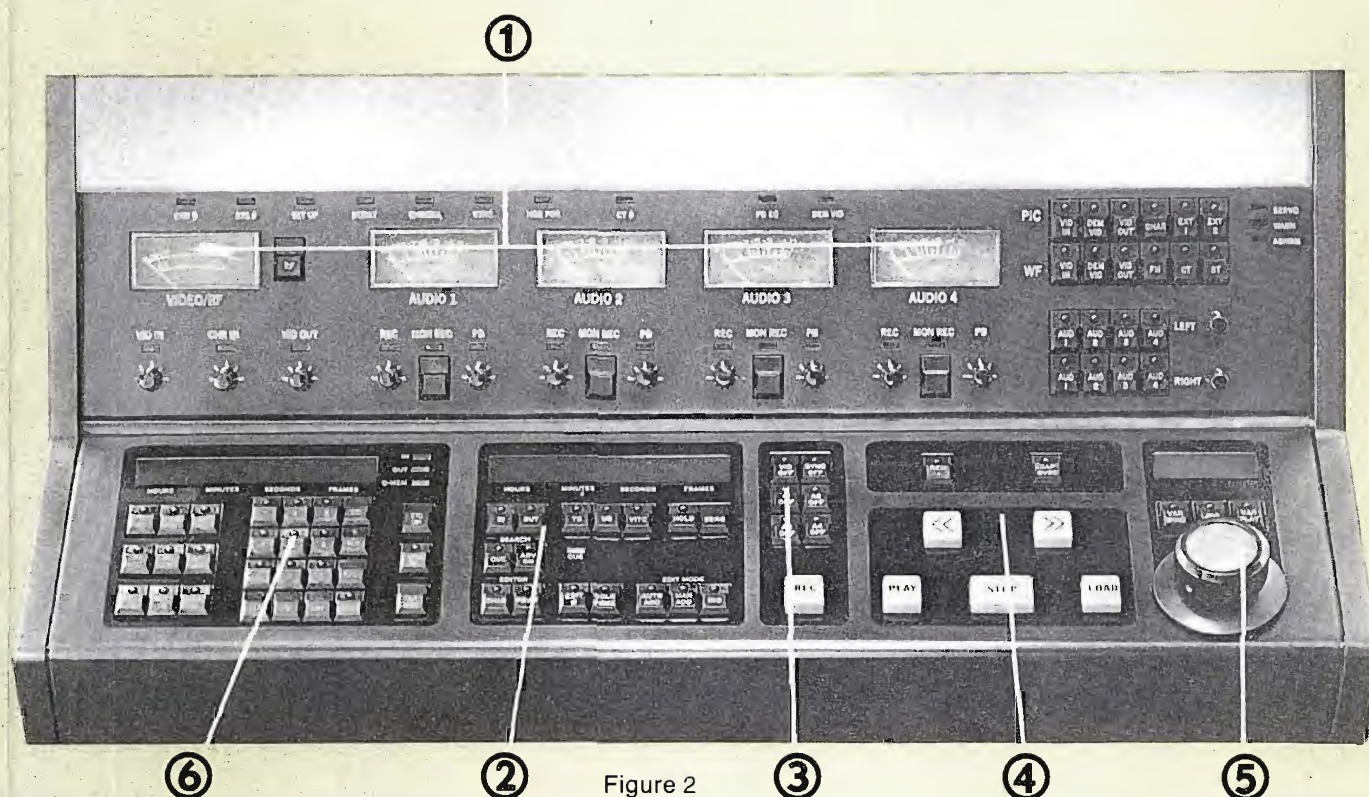

Figure 2
In its basic form, the Control Panel is partitioned into five major operational areas: (1) Video/Audio Monitoring; (2) Timer/Simple Editor Control; (3) Record Control; (4) Transport Control, and (5) Variable Speed Control. In the panel illustrated here (Fig. 2), Optional Time Code Generator and Super Search Editor controls have been added on the left (6).
Remote 2 is the full VTR mode remote, and involves the first phase of our Distributed Processing system. This is a two twisted pair I/O port with delegation selected via the Remote 2 pushbutton under the flip up cover at the top of Figure 2. Two uses of this port are for either a deluxe Remote Control Panel, or for a major tape system accessory unit which we have designated as MRVC (Multi-Rate Video Controller).